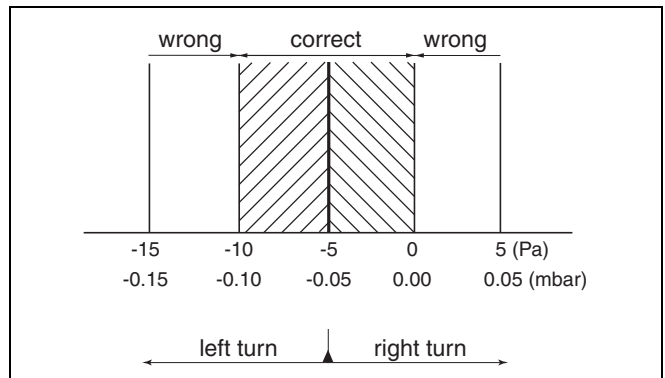

fig. 55 Pressure difference of gas/air ratio at partial load
- The optimum gas/air ratio is - 5 Pa (-0.05 mbar). The pressure difference should be between -10 and 0 Pa (see fig. 55).
- Adjust the adjustment screw of the burner pressure to the correct gas/air ratio using a (4 mm) socket head wrench and by referring to fig. 55.